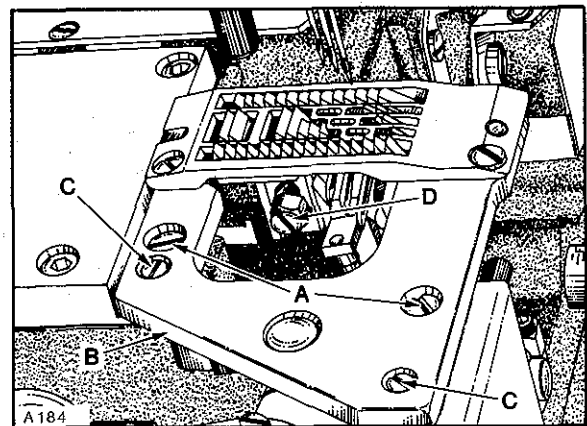
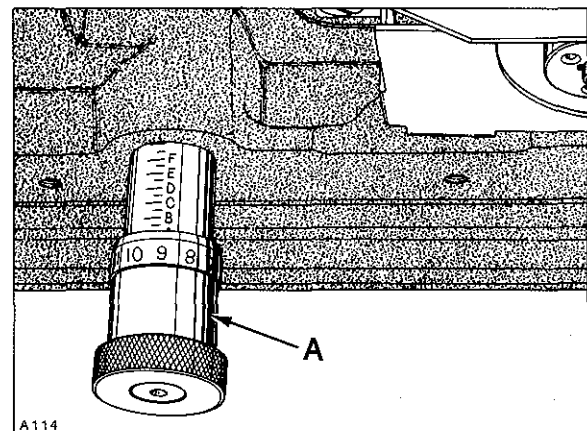
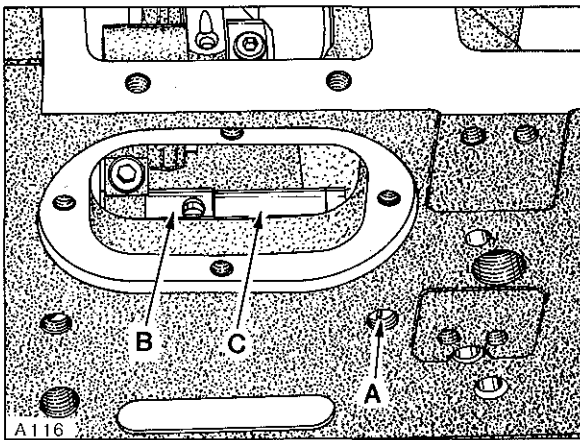
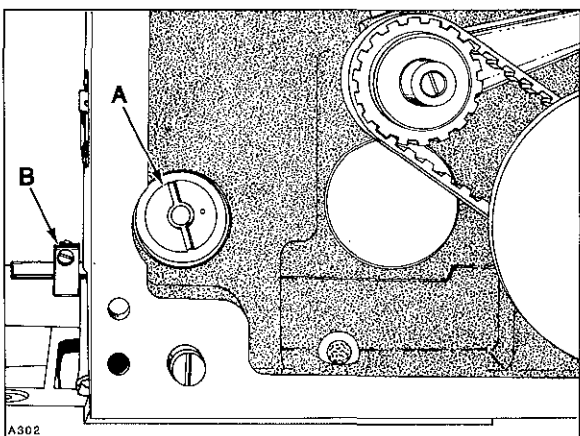

Fig.15
Fig.16
Fig.18
Fig.19
Feed dog should be centered in throat plate with equal clearance on both sides and ends. Feed dog should be level with and parallel to the top of throat plate as it begins to rise. At highest point of travel, feed dog teeth should extend the depth of a full tooth, or approximately 3/64 inch (1.2mm) above throat plate. **MINOR** (right to left) adjustments can be made by loosening two screws (A, Fig. 15) in throat plate support (B). Loosen two screws (C) securing two locating ferrules which allow movement to align throat plate support. Reposition slightly as required, considering both needle hole slots and feed dog slots. Tighten screws (C) first, then screws (A). Front to rear adjustment can be made by turning stitch regulating knob (A, Fig. 16) counterclockwise to obtain **LONGEST** stitch length. Remove rear feed chamber cover which is secured with four screws.
Feed dog can be leveled or tilted by loosening screw (A, Fig. 18) and rotate feed rocker tilting shaft (A, Fig. 19) slightly as required. Punch mark on shaft must be facing operator. Check parallelism of feed dog by placing throat plate in position. Before tightening screw (A, Fig. 18), make sure to have approximately .002 inch (.051mm) clearance between feed rocker (B) and spacer sleeve (C).
With feed travel set to desired stitch length, set feed dog height as specified by loosening mounting screw (D, Fig. 15) to position as required. Feed dog supporting screw is located in the feed dog holder, adjust as required to support feed dog before tightening screw (D).
Stitch length is changed by turning stitch regulating knob (A, Fig. 16) clockwise to shorten the stitch or counterclockwise to lengthen the stitch. Recheck front to rear clearance under "FEED DOG SETTINGS" whenever stitch length is changed. Stop collar (B, Fig. 19) at rear of machine attached to stitch regulating knob shaft can be set to prevent stitch length regulating knob (A, Fig. 16) from accidentally being turned beyond the desired stitch length.